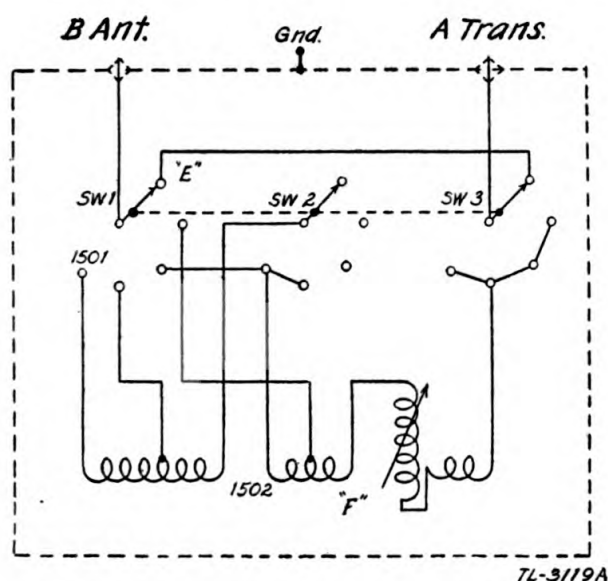

FIGURE 19.—Antenna tuning unit BC-306-A—schematic diagram.
28. Antenna tuning unit BC-306-A.—This antenna tuning unit is a tapped variometer. (See fig. 19.) In operation it furnishes the additional series inductive reactance loading required for resonating the antennas used with tuning units TU-3-A or -B, TU-22-A or -B, and TU-26-B on frequencies below 800 kilocycles. The antennas used at these frequencies are largely capacitive in their loading effect on the transmitter. The amount of inductive reactance required is